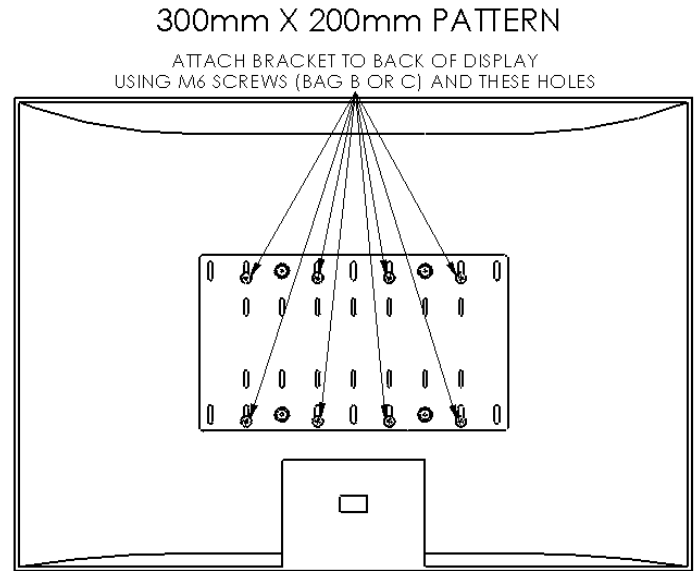

Figure 8. Display with 300mm x 200mm Hole Pattern
2. Attach the MSB-V (10) using the hole-pattern on the back of your display as shown in Figure 8.